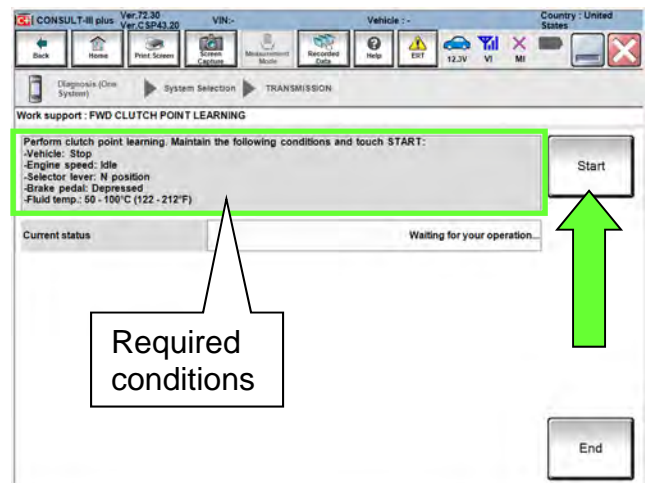

Figure 182
- Confirm that all of the conditions indicated in Figure 182 are being met.
182. While maintaining all conditions shown in Figure 182 and the “Current status” indicates “EXECUTING”, shift the CVT into **R** and then wait until the “Current status” indicates “COMPLETED”.